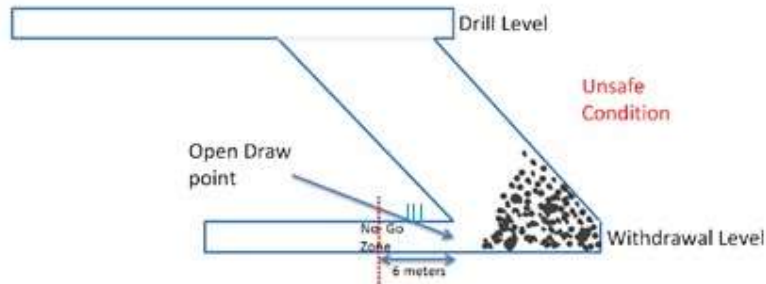

Fig.3 Open brow of the stope (require remote bogging)
5.10 Remote Bogging - the position of muck where the brow of the draw cross cut gets opened and muck cannot reel outside the brow till supported ground, also the cabin of the LHD is beyond the unsupported ground of the stope brow. This again depends on the support damage due to the blast. Ref. Fig. 3. In this operation the operator is not inside the machine for operation and LHD is operated by remote, through line of sight (LOS) remote or tele remote.